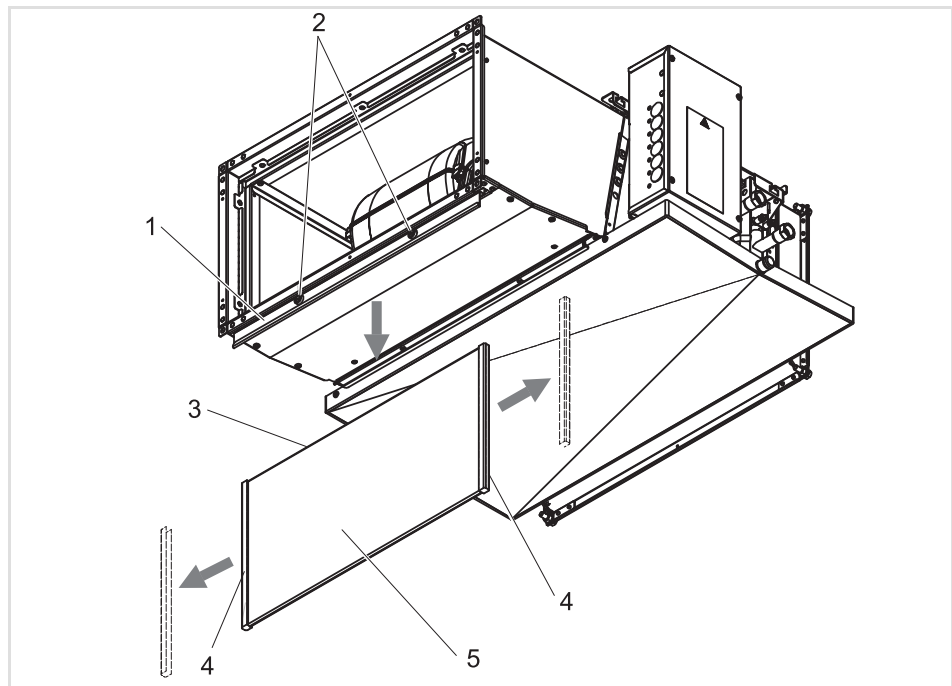

Fig. 8-1: Removing filter, replacing filter element
In order to carry out the exchange of the filter according to Fig. 8-1, proceed as follows:
- Release the sash fasteners on the filter flap by a half-turn counter-clockwise (refer to Fig. 8-1; and open the flap by turning downward (refer to Fig. 8-1, Pos. 1).
- Remove the filter evenly from the unit (refer to Fig. 8-1; Pos. 3).
- Pull away the terminal strips left and right of filter frame (refer to Fig. 8-1; Pos. 4).
- Pull the filter material from frame (refer to Fig. 8-1; Pos. 5).